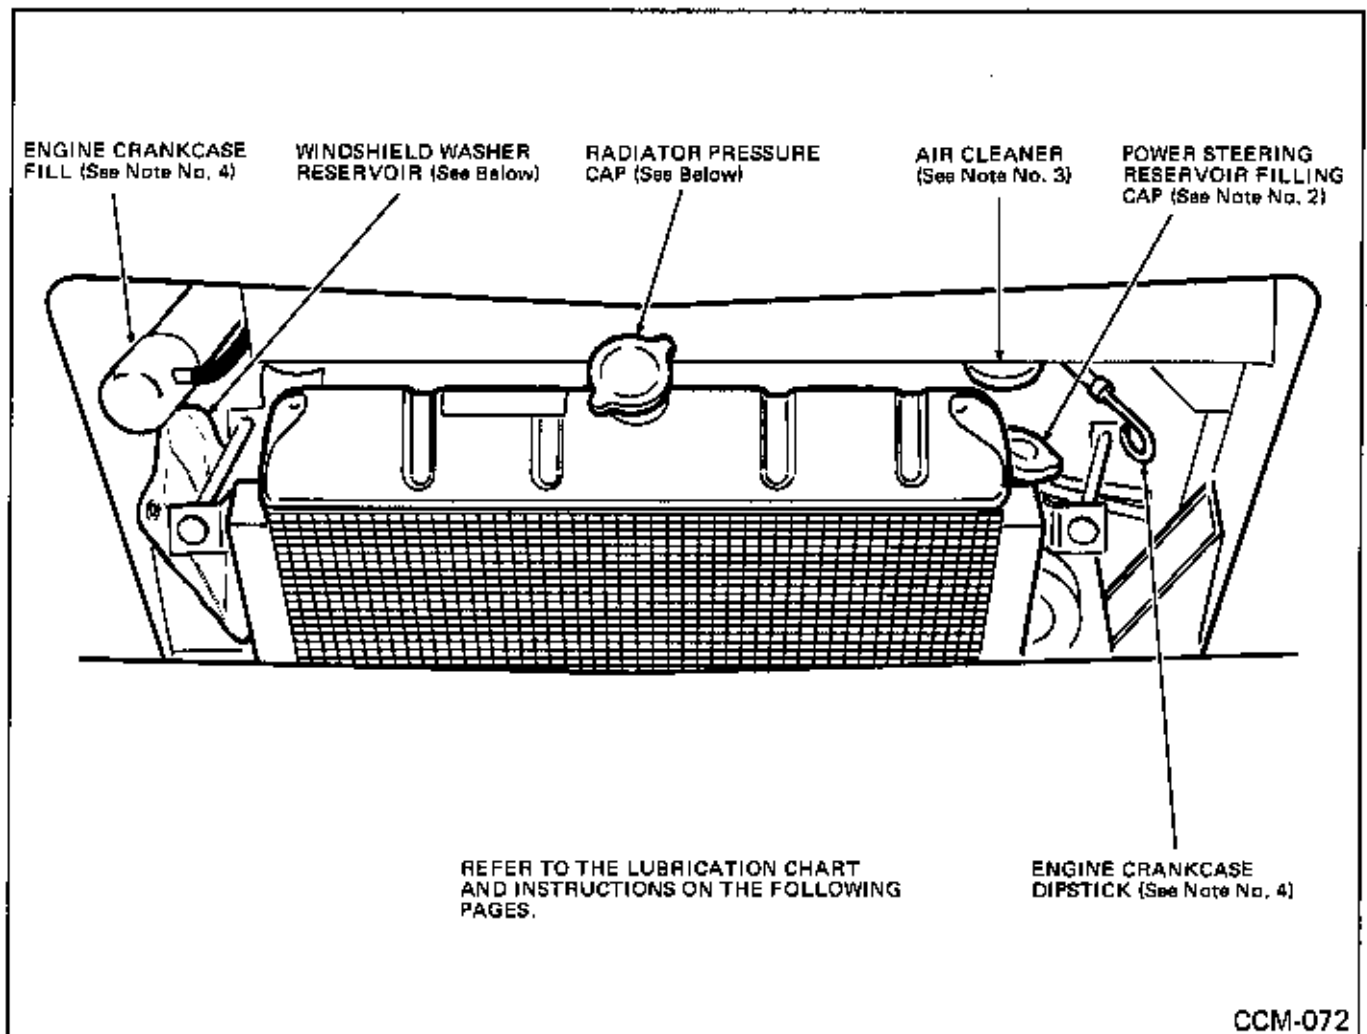

Fig. 67 Service Opening
Check fluid level every 3,000 miles (Refer to "Service Opening", Fig. 67 for location of reservoir). Before removing reservoir cap, wipe outside of cap and reservoir so that dirt will not fall into the reservoir. Turn cap one half turn to the left and remove. Fluid level should be 1/2 to 3/4 of an inch below the top of the filler neck. If additional fluid is required, use Type "A" Automatic Transmission Fluid. Containers must have number prefixed by AQ--ATF.
The air cleaner element should be cleaned every 1,000 miles and should be replaced every 10,000 miles or every six (6) months, whichever first occurs. Clean or replace element more often if the vehicle is driven in dusty or sandy areas. The air cleaner is accessible through the Service Opening. (Fig. 67)
Windshield washer container (Fig. 67) should be